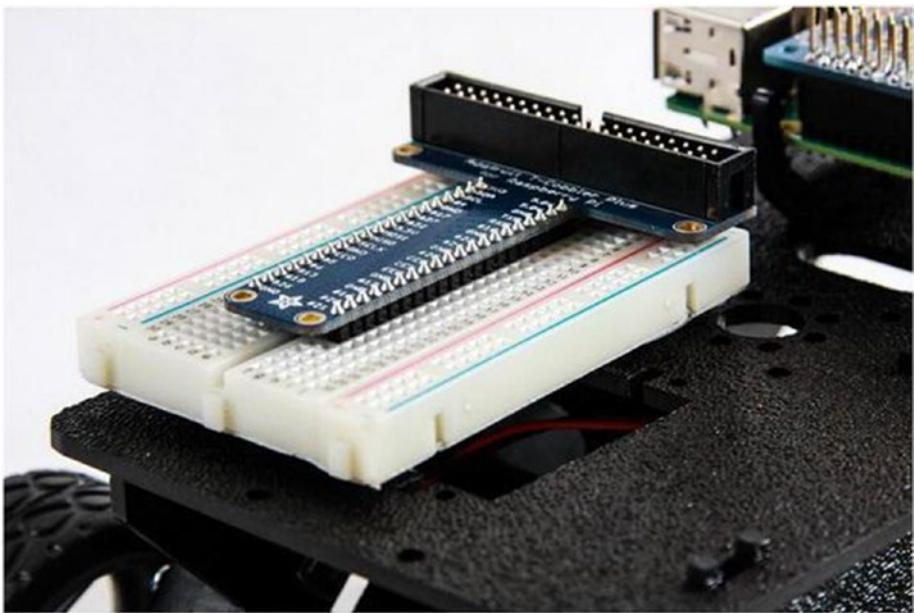

Figure 7-13. Mounted breadboard. Note that the T-Cobbler has been moved forward to allow room for the power pack
3. Remove the protective paper from the bottom of the breadboard and press the breadboard firmly into the T-shaped tape on the top plate (see Figure 7-13).